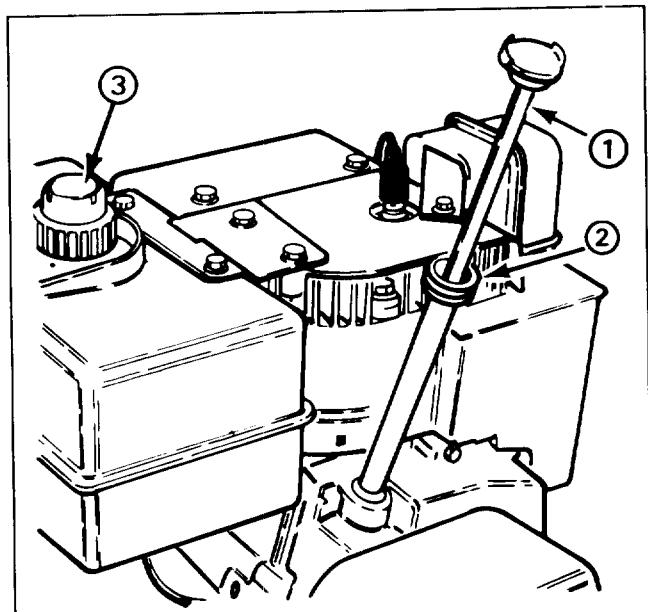

Figure 11
## FILL CRANKCASE WITH OIL (Fig. 11)
1. Clean area around the fuel tank cap (Fig. 11). Remove cap from fuel tank. Using unleaded, regular gasoline, fill tank to within 1/4" to 1/2" (6 to 13 mm) from the top of the tank, not into the filler neck. This space is for expansion of fuel. Do not fill tank full. Reinstall fuel tank cap.
3. Open fuel shut-off valve below fuel tank (Fig. 11).